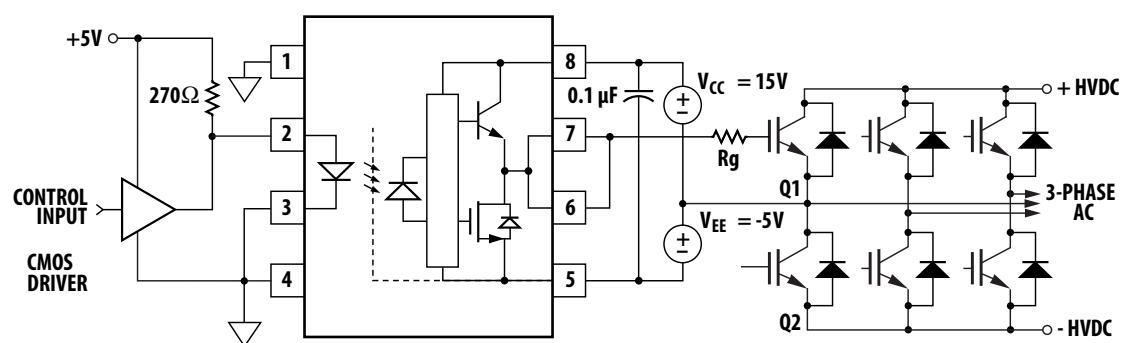

Figure 26. ACPL-312U typical application circuit with negative IGBT gate drive.
Step 1: Calculate Rg Minimum from the I_{OL} Peak Specification. The IGBT and Rg in Figure 26 can be analyzed as a simple RC circuit with a voltage supplied by the ACPL-312U.
For the circuit in Figure 26 with I_F (worst case) = 16 mA, $R_g = 8 \Omega$, Max Duty Cycle = 80%, $Q_g = 500 \text{ nC}$, $f = 20 \text{ kHz}$: